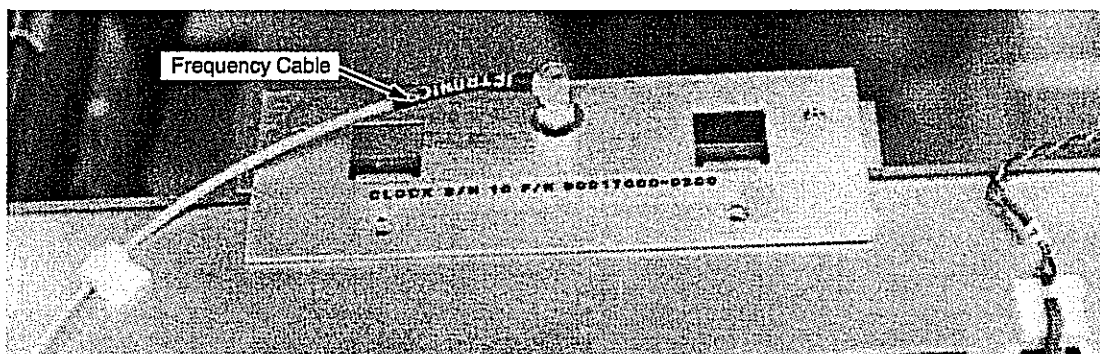

Figure 7-19. Clock Module Frequency Cable
5. Remove the frequency cable by unscrewing the lower nut on the frequency cable connector. Refer to Figure 7-19.
2. Replace the frequency cable (refer to Figure 7-19).